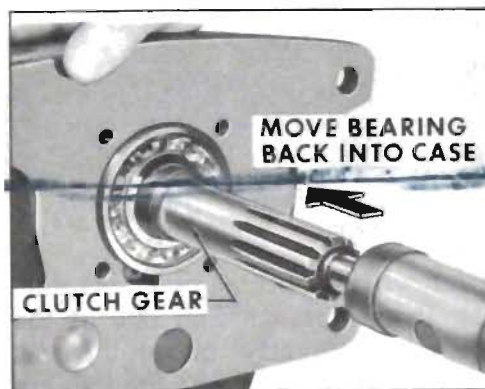

Figure 4-17—Clutch Gear Bearing Removal
9. Tap the end of the clutch gear with a soft hammer, moving the bearing and gear assembly back into the case. Remove the assembly thru the rear of the case. See Figure 4-17.